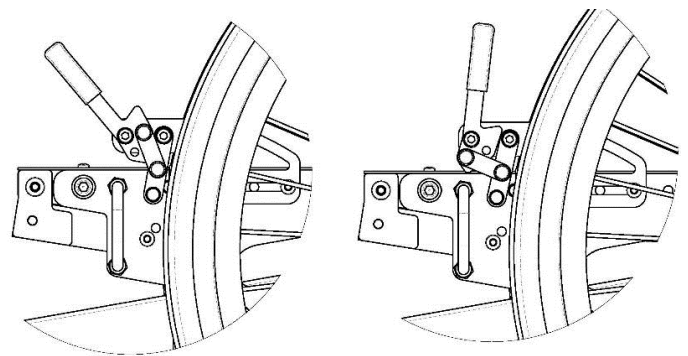

Fig. 15: Pull-to-Lock (Left) and Push-to-Lock (Right) Wheel Locks (standard).
1. To engage the push to lock wheel lock (see Figure 15), push the lever forward, away from the wheel, until it locks into place.
2. To engage the pull to lock wheel lock (see Figure 15), pull the lever towards the wheel until it locks into place.